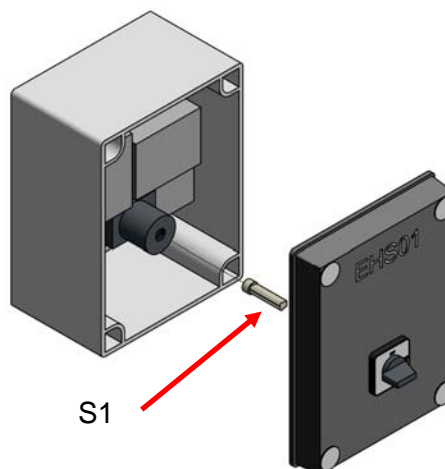

Figure 3-2, Removal of Switch Coupling Shaft
- 3.5 With the lid removed, the switch coupling shaft (S1), connecting the internal electronic switch and the external switch on the lid, can be removed, Figure 3-2. Store this coupling shaft in the control box in case it is required in future.